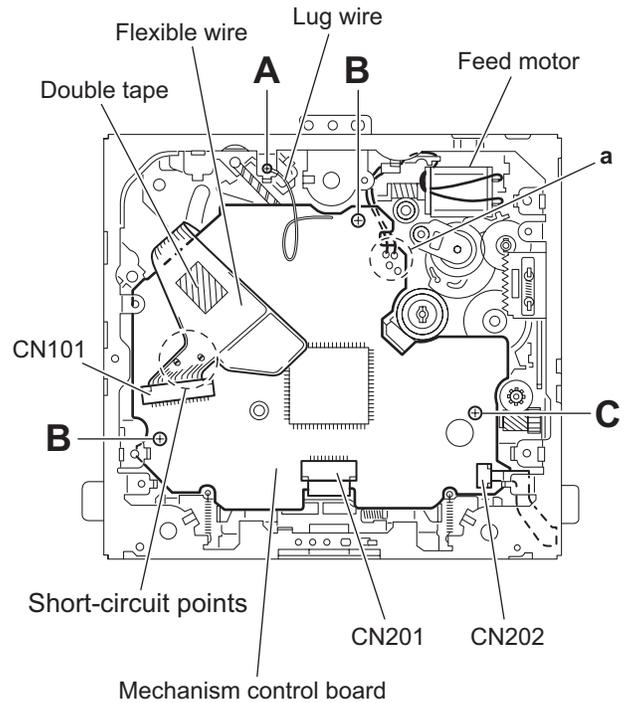

Fig.1
3.2.1 Removing the mechanism control board (See Fig.1)